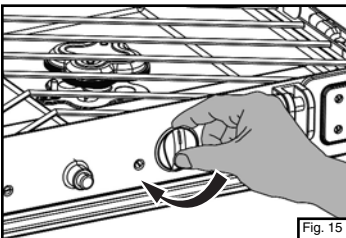

Fig. 15
- Close the burner valves firmly (Fig. 15).